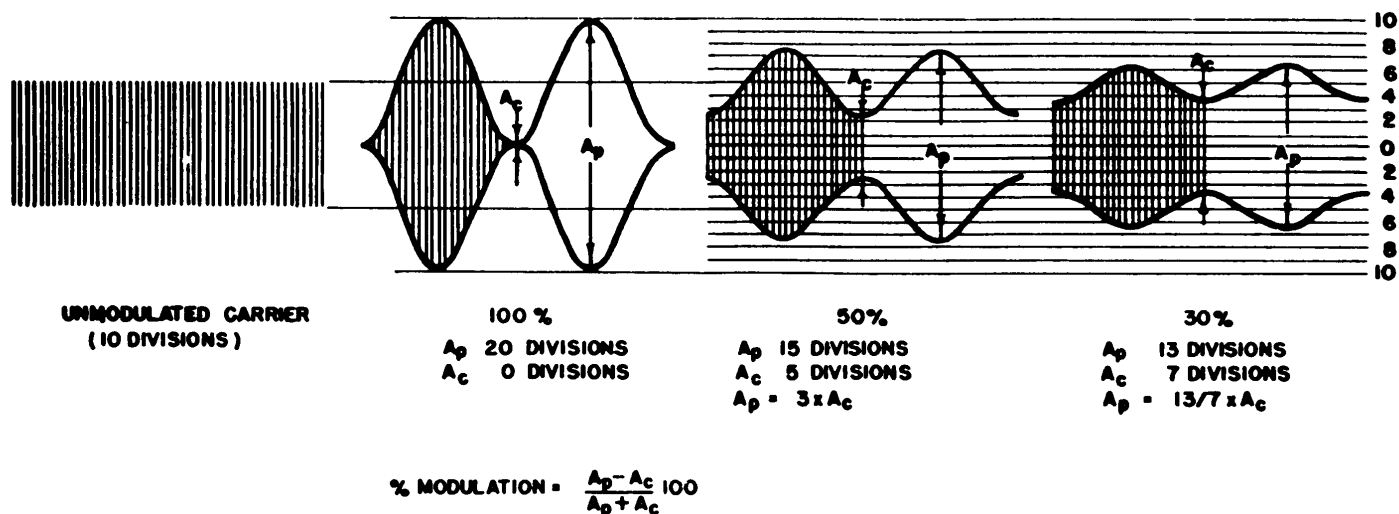

Figure 6-10. Percentage Modulation Chart
d. PERCENTAGE MODULATION CALIBRATION (lower meter scale). (See figure 6-10)
(1) Set carrier frequency at 100 kc.
(2) Set METER READS switch (S-102) to the % MOD. position.
(3) Set MOD SELECTOR switch (S-103) for 400 cycles per second.
(4) Set CARRIER RANGE switch (S-107) to the "10 kc-230 kc" position.
(5) Feed the output from the X MULT RF OUTPUT jack (J-102) to the vertical input of a test oscilloscope.
(6) Place a graduated celluloid screen over the face of the oscilloscope.
(7) With the MULTIPLIER dial (I-104) and MICROVOLTS control (R-155), adjust the modulated signal amplitude to cover approximately 75 per cent of the face of the oscilloscope.
(8) Adjust the % MODULATION control (R-111) on the front panel until 50 percent modulation is indicated on the oscilloscope (See figure 6-10.)
(9) Adjust the Mod Sens control (R-134) until the
MODULATION	<ol style="list-style-type: none"> 8. If the meter still does not respond to the % MODULATION control, feed the output signal DIODE. from the X MULT RF OUTPUT jack (J-102) to a test oscilloscope. Set the carrier frequency at 100 kc. Place the METER READS switch (S-102) in the RF position. Advance the CARRIER CONTROL (R-123) in a clockwise direction until a reading of "100" is obtained on the upper meter scale. With the external modulation applied as in par. 7 above, the modulated pattern should appear on the oscilloscope (see figure 6-10). If it does, the trouble was in the modulation diode circuit.